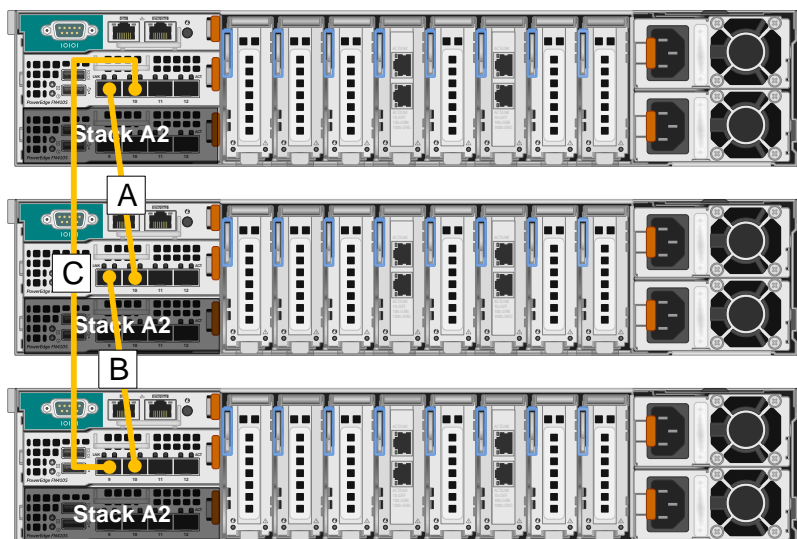

Figure 12 Physical cabling for Stack A1
The top FN IOM switches from each FX2s chassis comprise Stack A1. Their wiring uses a stack ring topology. See Figure 12. Table 2 contains the information required to wire the stack in this configuration with labels A through C to identify the cable in Figure 12.
**Note:** Figure 12 omits Stack A2 for clarity. Section 5.3.2 describes the configuration of Stack A2.